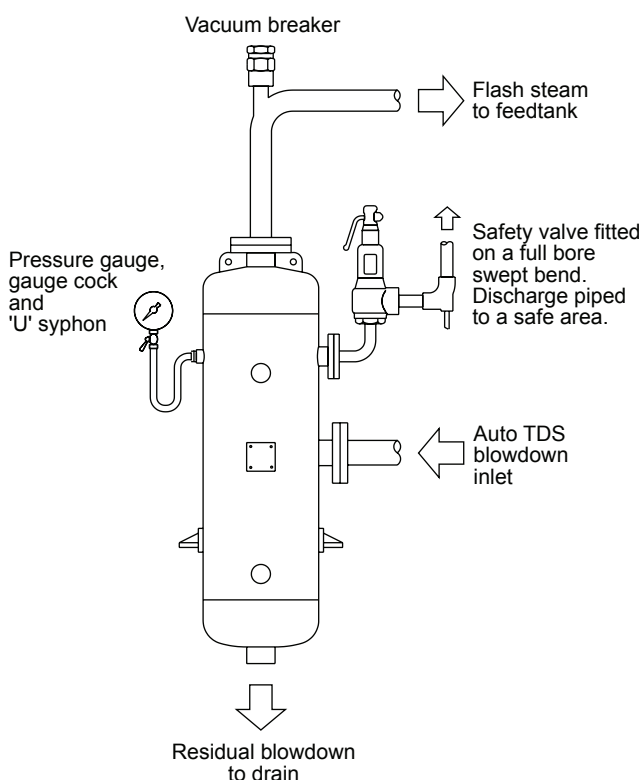

Fig. 2 Flash vessel
- Fit the pressure gauge set, safety valve and vacuum breaker as shown in Figure 2.